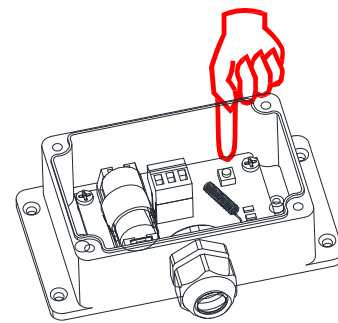

Fig. 4: 220 body and cover removal
2. To add a 220 relay output module to the Group, press and release the Test/Hush button twice within 2 s (see Fig. 4). The red LED will flash twice in 1 s.